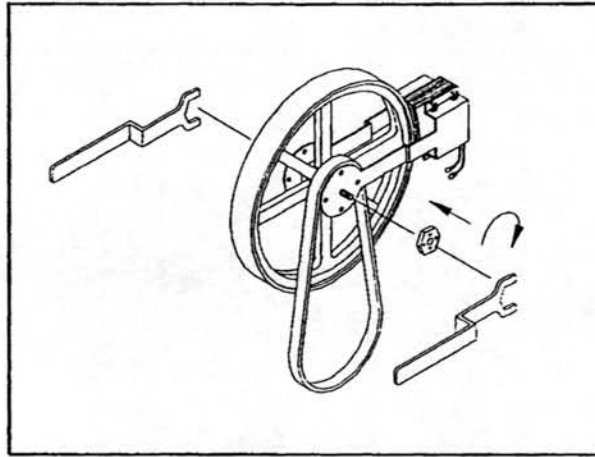

Fig.13-4
1. Place a new poly-V belt into position by leveling the BRACKET and use a wrench to fix the hexagonal head nut on the left side of the WHEEL (backside of the fig. 13-4) first. Also, use another wrench by turning clockwise direction to tighten the nut on right side of the WHEEL (see Fig. 13-4).